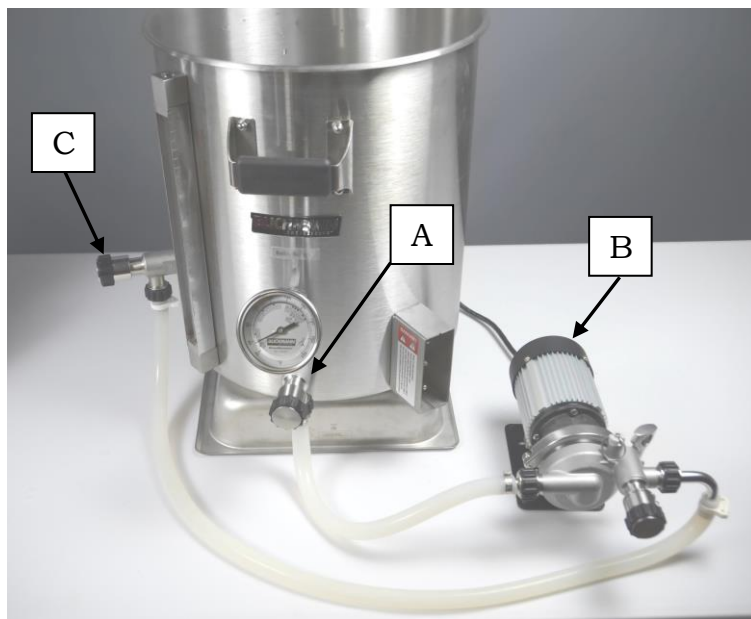

Fig. 11
- A pump, hose fittings, and high temperature hose (as shown in **Fig 11.**) are required to complete a whirlpool system. Figure 11 shows a typical system setup for a whirlpool. The wort is drawn out of the kettle at position **A**, with the brewing pump in position **B**, and sent to the whirlpool valve at location **C**.